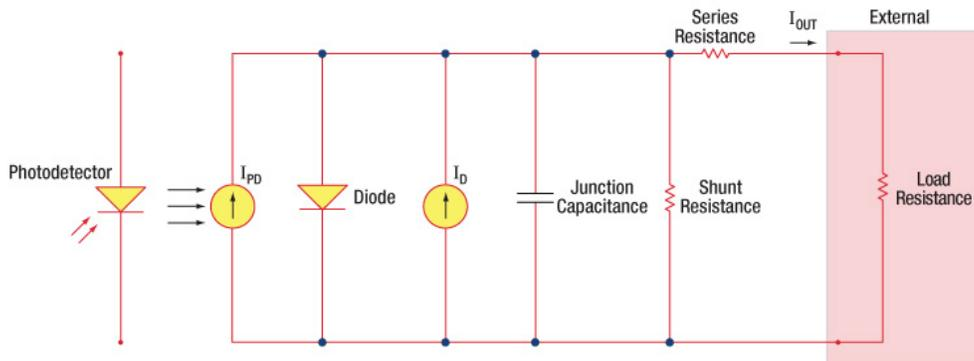

Figure 1: Photodiode Model
It is necessary to be able to correctly determine the level of the output current to expect and the responsivity based upon the incident light. Depicted in Figure 1 is a junction photodiode model with basic discrete components to help visualize the main characteristics and gain a better understanding of the operation of Thorlabs' photodiodes.
Pulsed laser radiation parameters are illustrated in Figure 1 and described in the table. For quick reference, a list of equations are provided below. The document available for download provides this information, as well as an introduction to pulsed laser emission, an overview of relationships among the different parameters, and guidance for applying the calculations.
**Figure 1:** Parameters used to describe pulsed laser emission are indicated in the plot (above) and described in the table (below). **Pulse energy (E)** is the shaded area under the pulse curve. Pulse energy is, equivalently, the area of the diagonally hashed region.